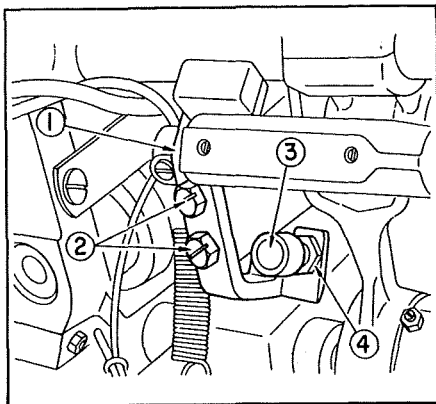

Fig. 29
When you can not get the maximum stitch length, you can adjust it by changing the position of the feed limiting plate (① of Fig.29) located on the back side of the machine bed.
If the maximum stitch length of the normal feed is not enough, tilt the machine head backwards, loosen 2 screws (② of Fig.29) clamping the feed limiting plate and slip the plate upwards. If the stitch length is too long, on the contrary, slip the said plate downwards and re-tighten the screws firmly. After adjustment you must measure the maximum stitch length for the distance of 11 stitches by manually forming such stitches on a piece of paper.
The maximum stitch length of the reverse feed can be adjusted by changing the height of the feed limiting plate using the adjusting screw (③ of Fig.29). Loosen the lock nut (④ of Fig.29) and turn the screw clockwise for increasing the stitch length or counter-clockwise for decreasing.